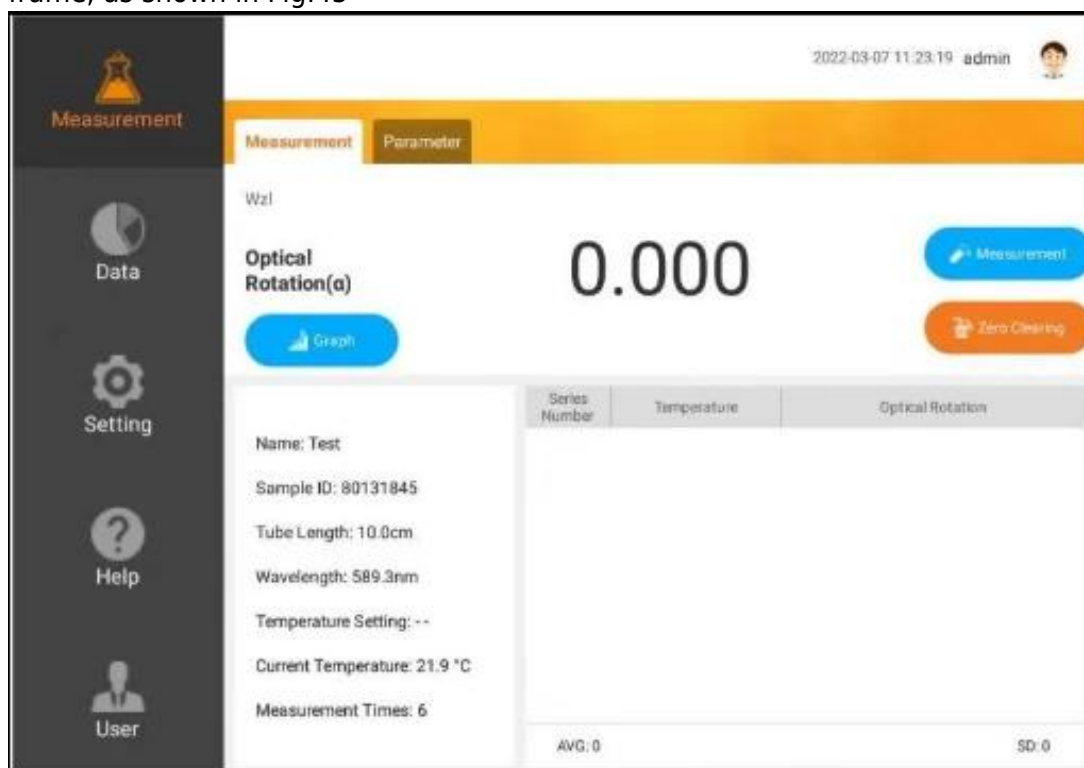

Figure 45
8. Click the menu bar in the upper left corner of the instrument interface and select "Data" in the popup frame, as shown in Fig.45